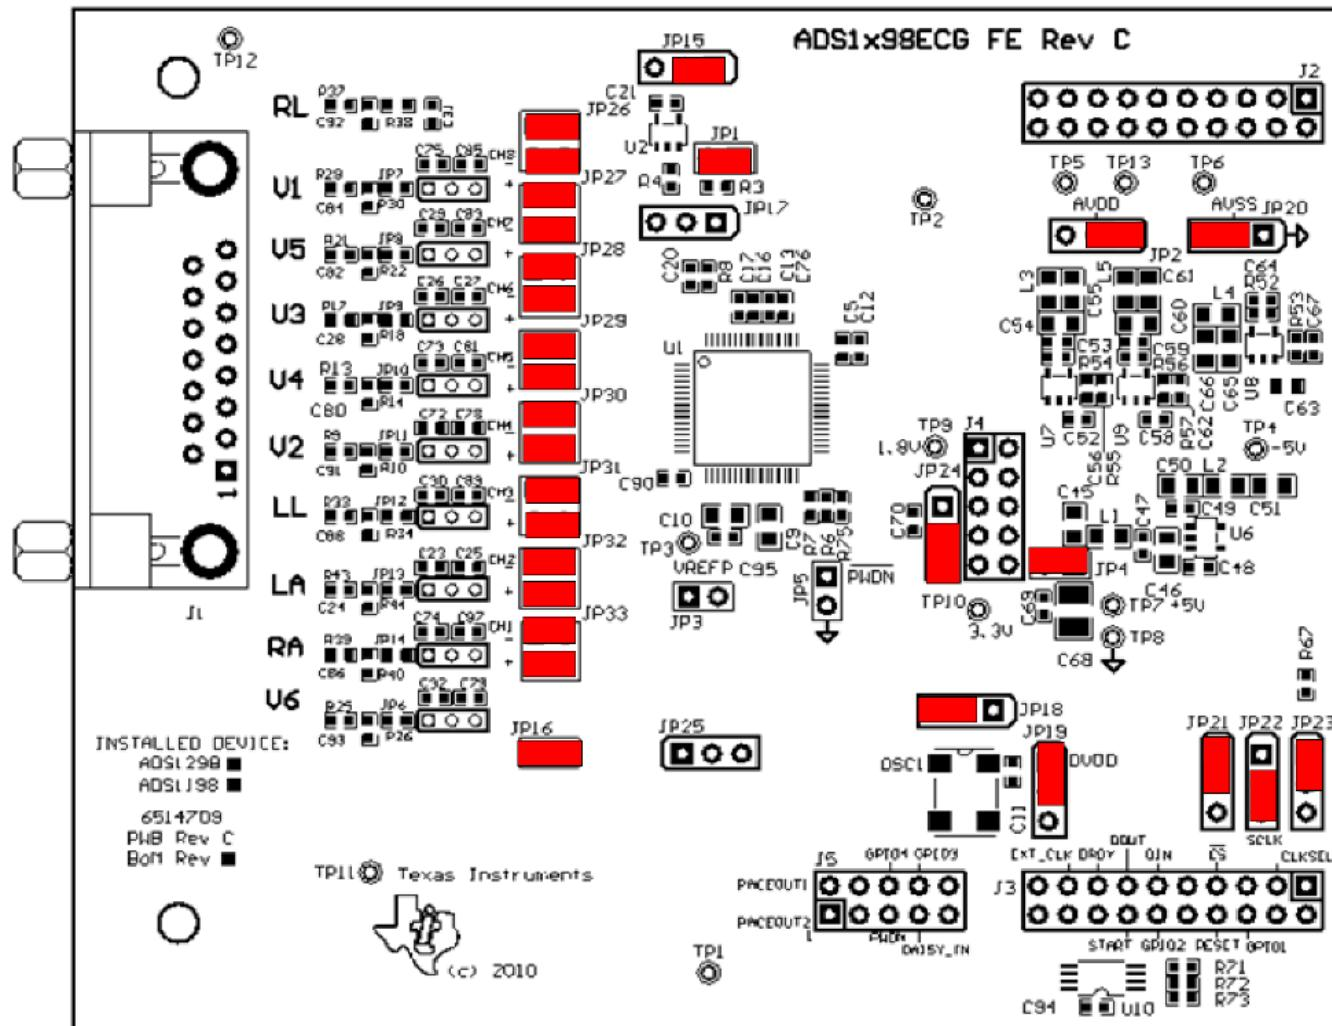

Figure 2. ADS1x98ECG-FE Default Jumper Locations
Figure 2 shows the jumpers found on the ADS1x98ECG-FE EVM and the respective factory default conditions for each.
- Verify the jumpers on the ADS1298ECG-FE are as shown in Figure 2 (note that these settings are the factory-configured settings for the board).